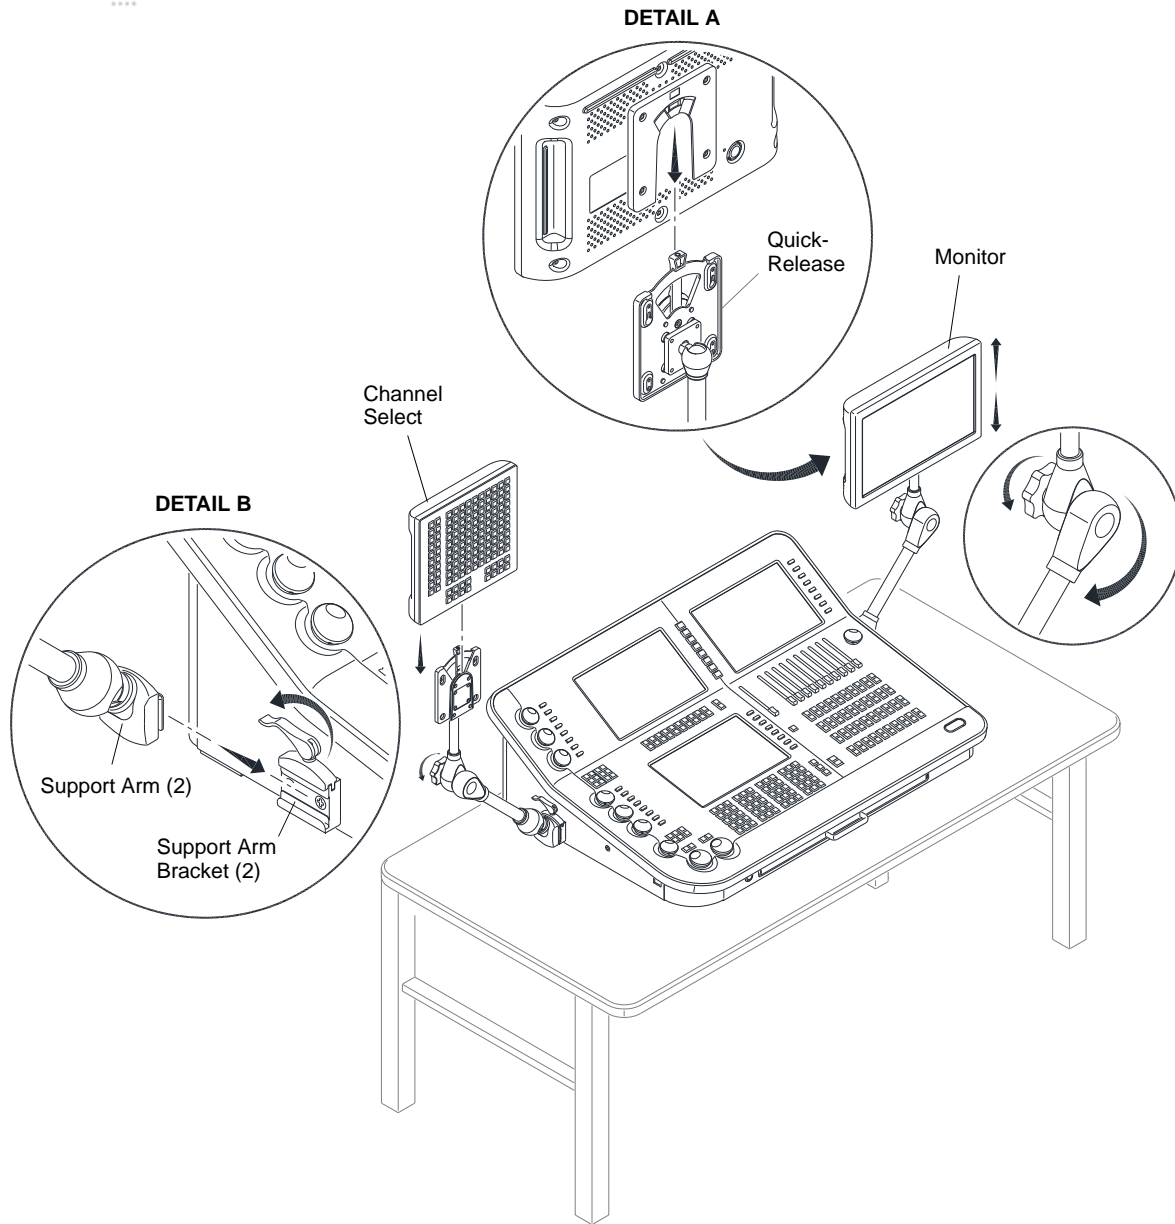

Figure 1-16: Installing V476 Channel Select Panel and Monitor
- Step 3. At rear of console, install two support arms as shown in Detail B of **Figure 1-16**.
- Step 4. Slide Channel Select panel and monitor down onto support arm quick-release connectors as shown in Detail A of **Figure 1-16**.